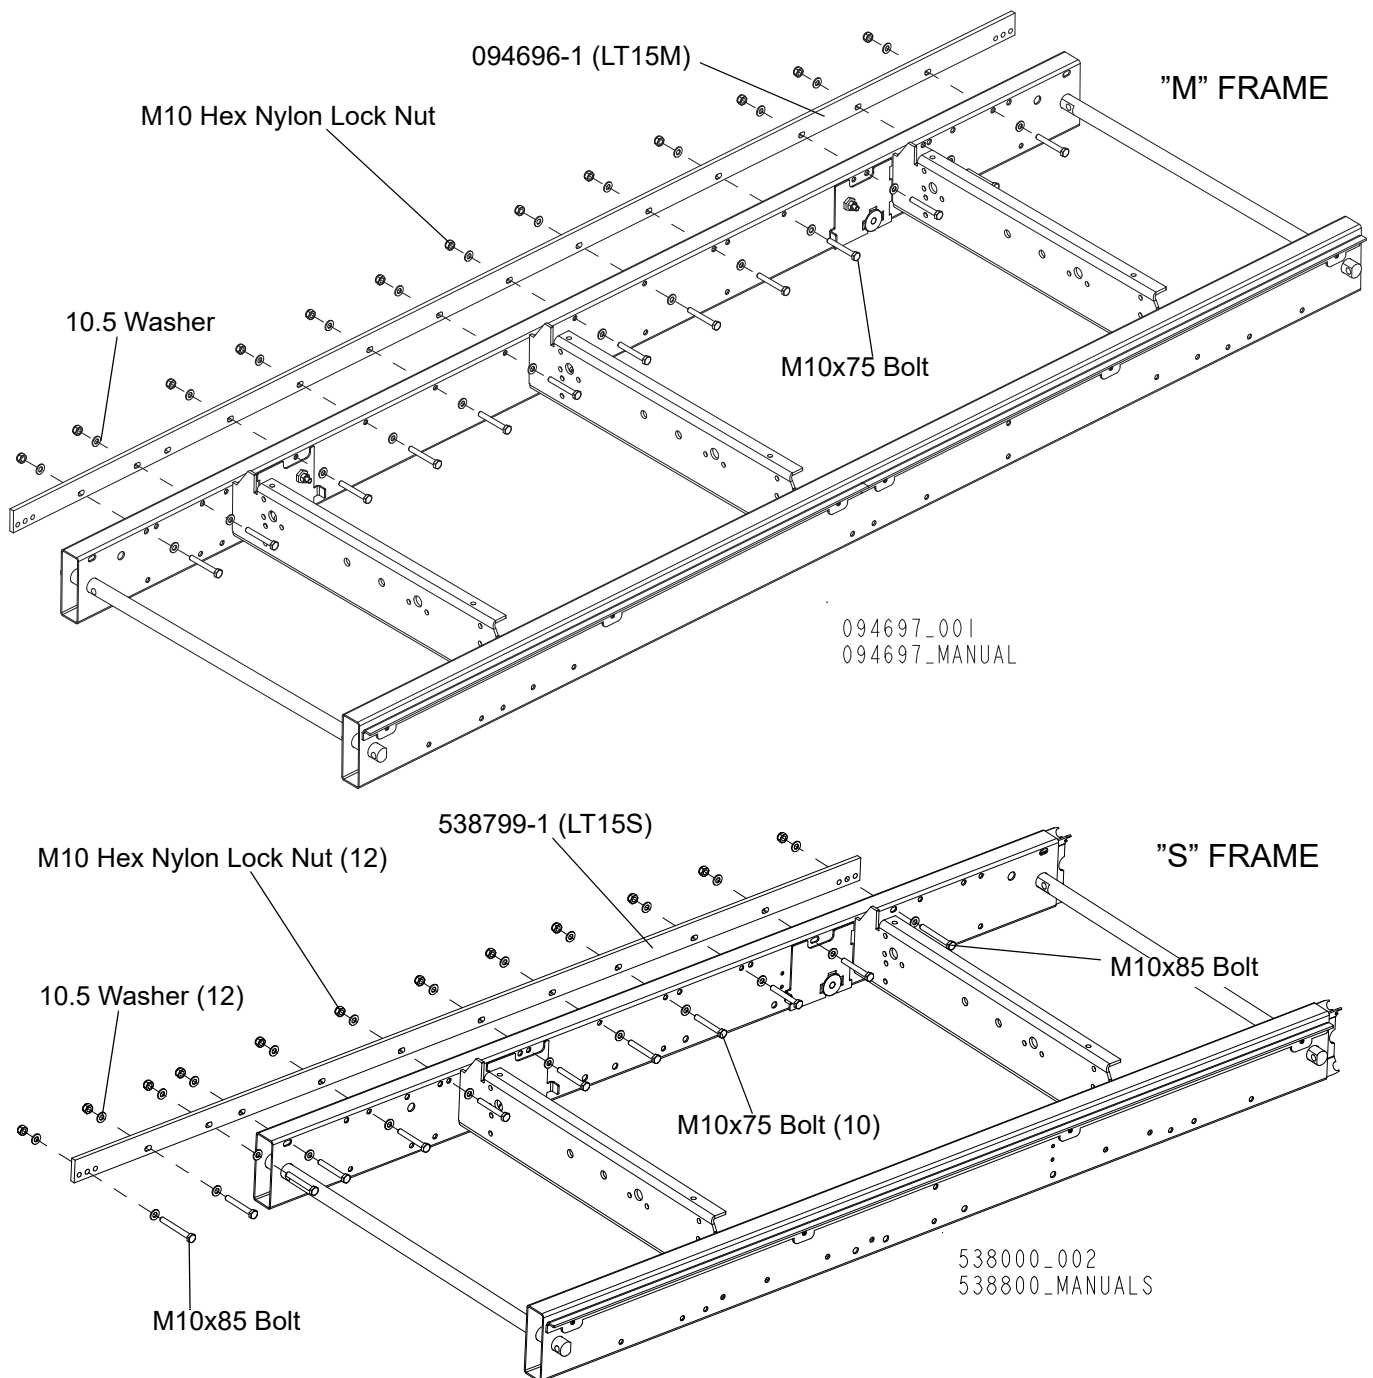

FIG. 2-3
1. Mount preliminarily the track rail as shown in Figure FIG. 2-3. Do not tighten the nuts.
See Figure 2-3.